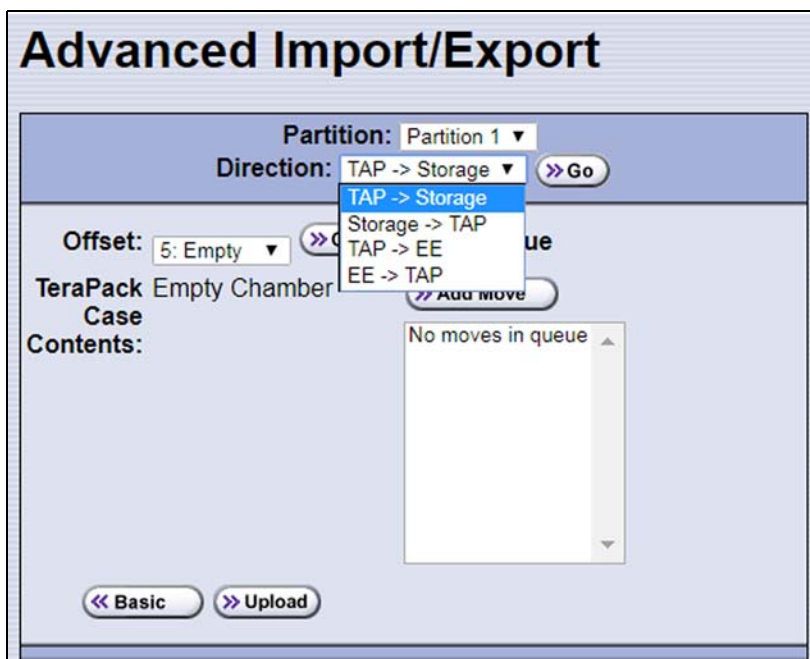

Figure 143 Select the partition, the direction of the move, and the source chamber for the move.
- c. On the Advanced Import/Export screen (see Figure 143 on page 244), click **Upload**. The Upload Media Exchange Move List screen displays.